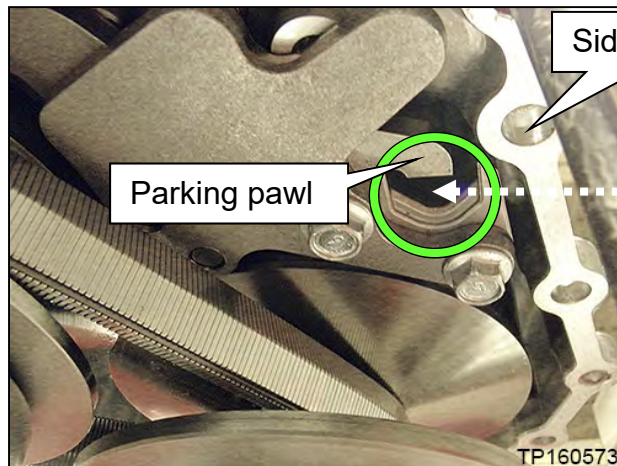
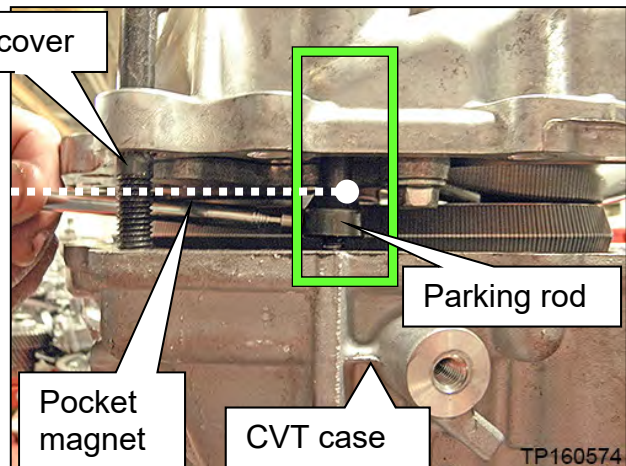

Figure 96
Figure 97
- b. Use a magnet, or similar tool, to align the park rod in the CVT case (  in Figure 97) with the opening in the parking pawl (  in Figure 96) in the side cover.